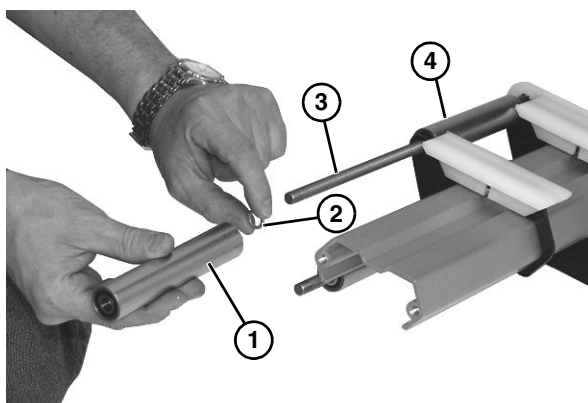

Figure 51
- Remove roller assembly (**Figure 51, item 1**) and washer (**Figure 51, item 2**) from axle shaft (**Figure 51, item 3**).
- Remove remaining roller assembly components (**Figure 51, item 4**) on opposite side.